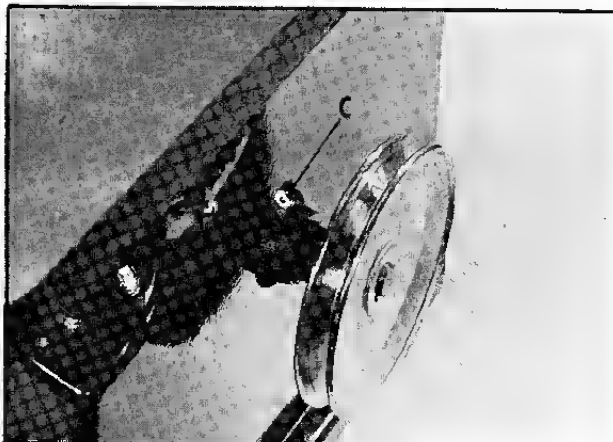

Fig. 24
The drive shaft runs on bronze bearings. Lubricate occasionally through oiler (C) Fig. 24, using light machine oil.